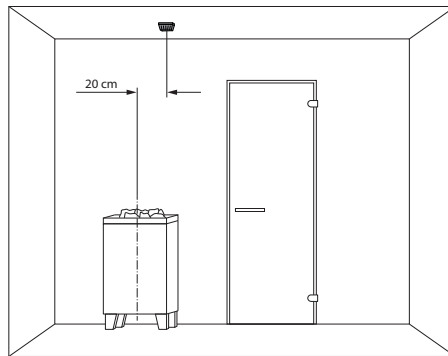

Fig. 12
1. Mount the heater sensor in cabins up to 2 x 2 m according to fig. 12 and 13, in larger cabins according to fig. 12 and 14.